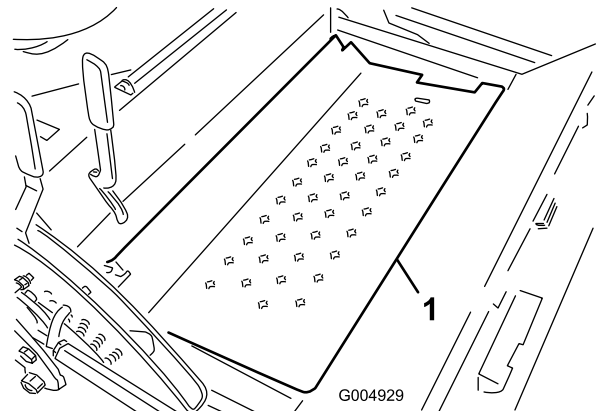

Figure 89
33. Pivot open the floor plate (Figure 89).